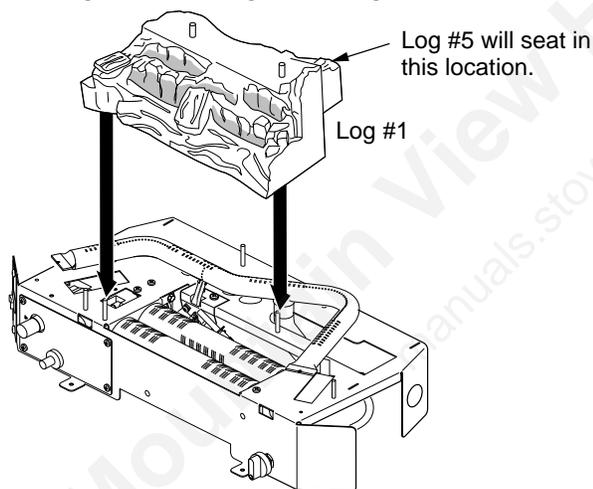

Figure 23 - Installing Log #1 (Ember Bed) (Model VRL30NR Shown)
1. Place log #1 (ember bed) onto base over log alignment screws to the left of front burner and behind middle burner. Log #1 will sit on top of front and middle burners (see Figure 23).
5. Locate hole on bottom of log #5 and place over pin on log #2. Log #5 will rest on back of log #1 (ember bed). See Figure 23 and 26.